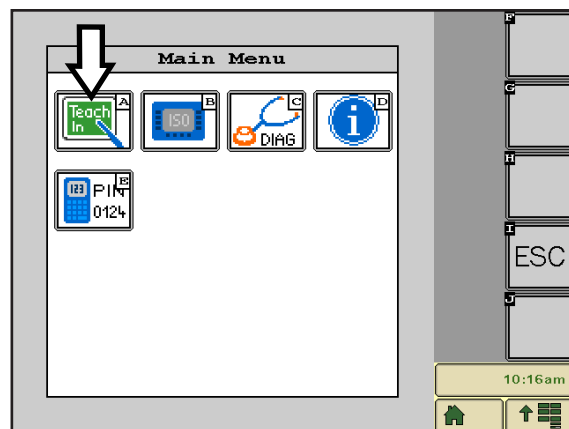

Fig. 6: Accessing the Teach menu
Tap the Teach In symbol (A) in the main menu (see Fig. 6) to open the Teach menu.